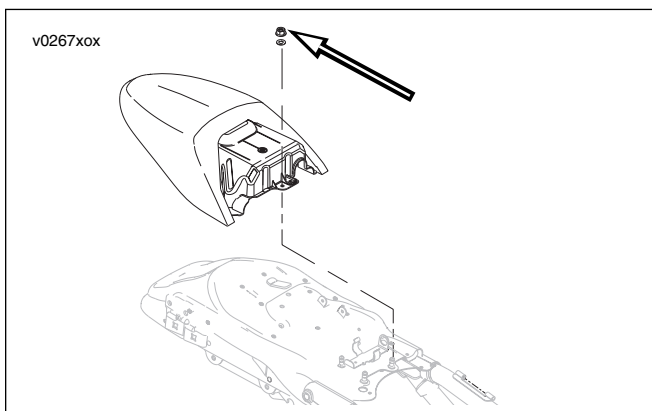

Figure 2-178. Remove Pillion
4. See Figure 2-178. Remove fastener and passenger pillion.